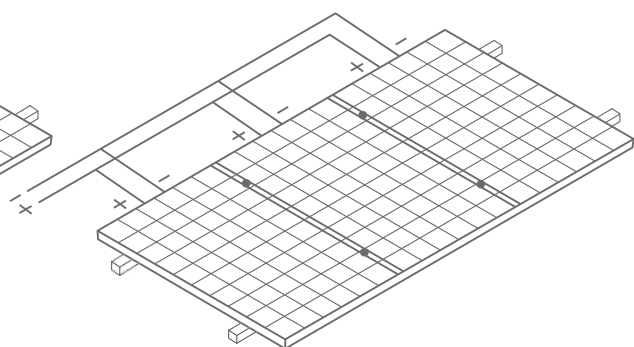

Figure 4
- When connected in parallel, the current output is equal to the sum of each string’s current (shown in Figure 4). Fuse is necessary for each module string. Please take reference to the local regulation. Recommended maximum parallel Modules configurations: Fuse rating/  $I_{sc}+1$ .